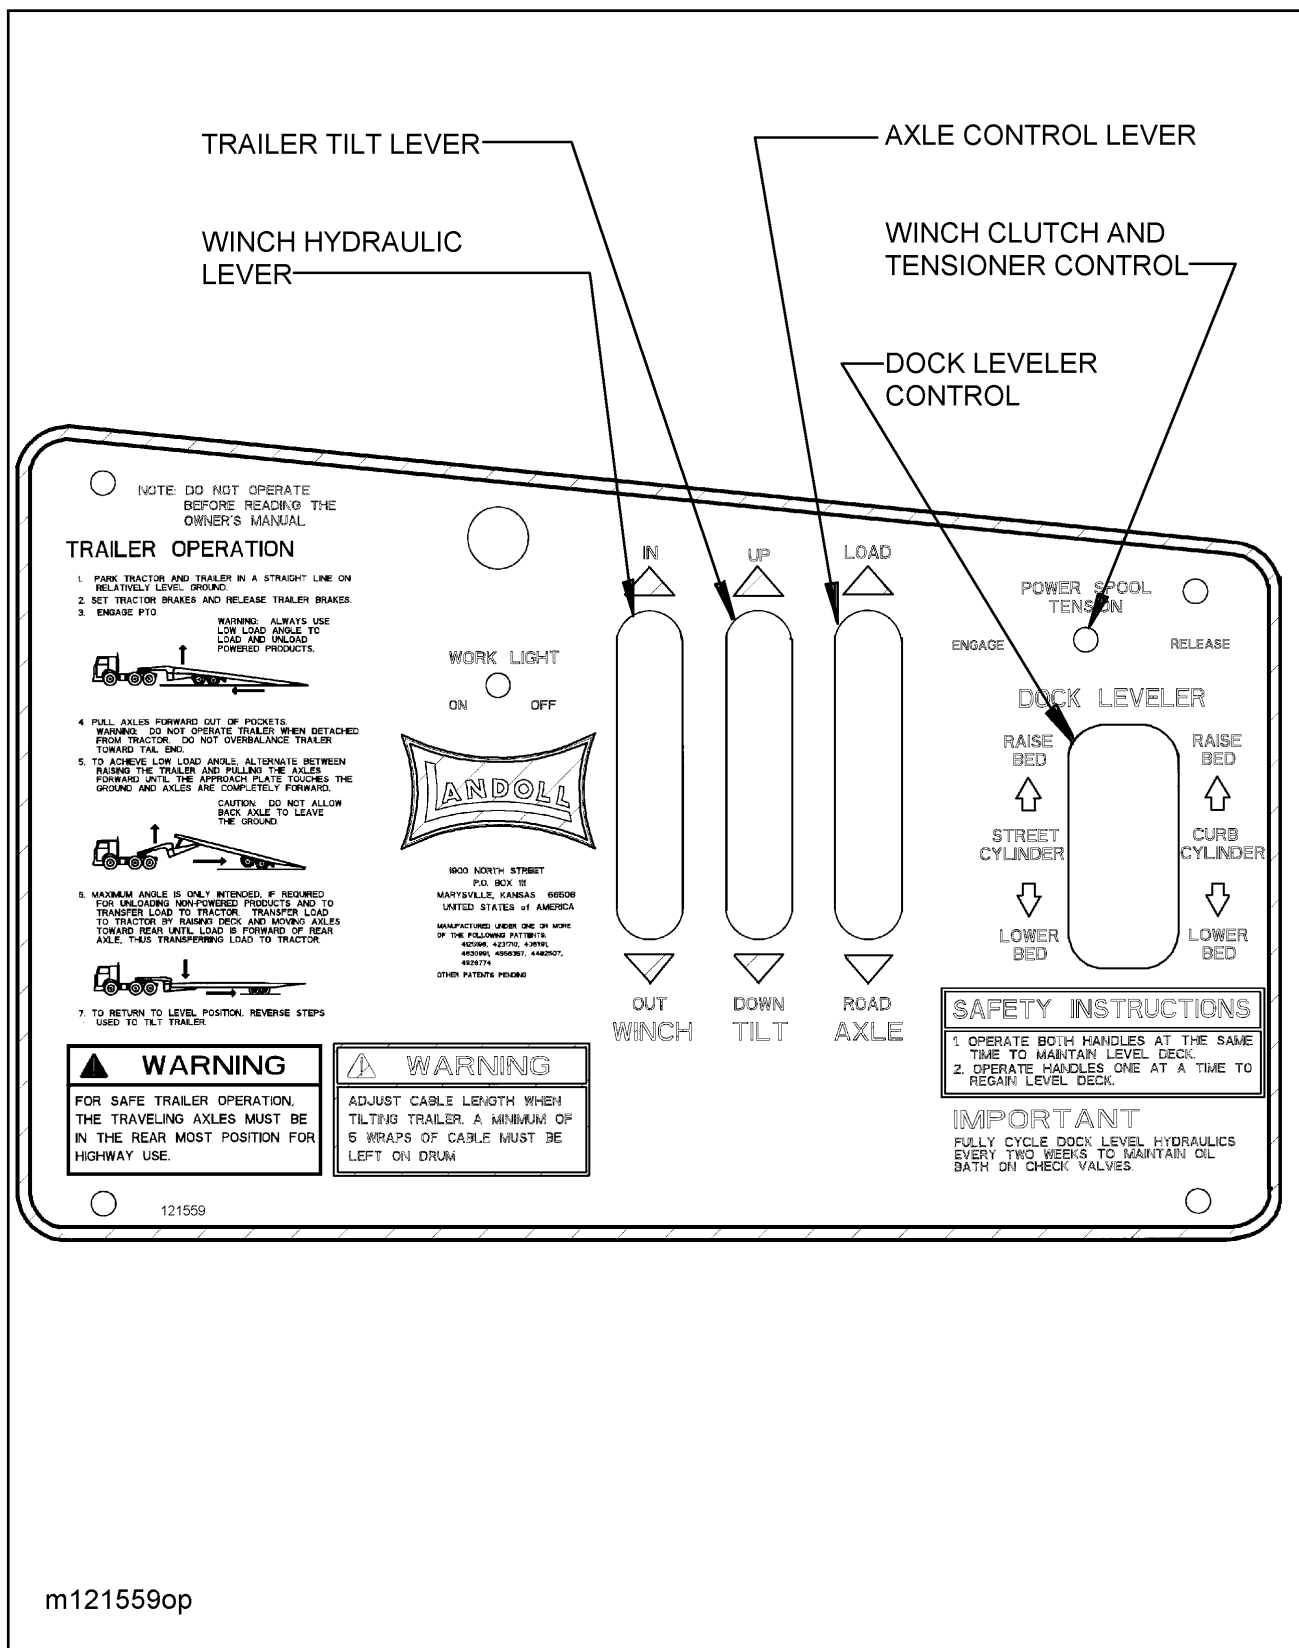

Figure 3-4 Hydraulic Controls
- a. For pin drop landing gear, activate the **TRAILER TILT** lever "UP" (See Figure 3-4) until weight is off the landing gear. Raise landing gear. (See Section 3-9 for operation of **TRAILER TILT** lever.) Secure each leg with a park stand retaining pin in the full "up" position before transporting.